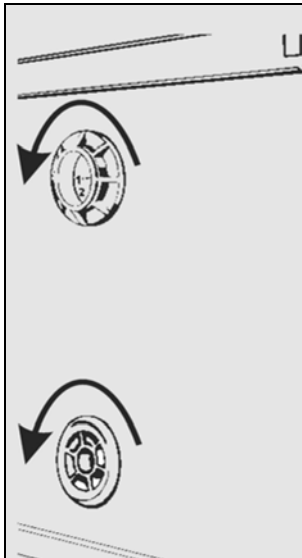

Figure 5-24: Water Inlet Removal
2. Unscrew the connections securing the water inlet to the inside of the cabinet; see Figure 5-24.